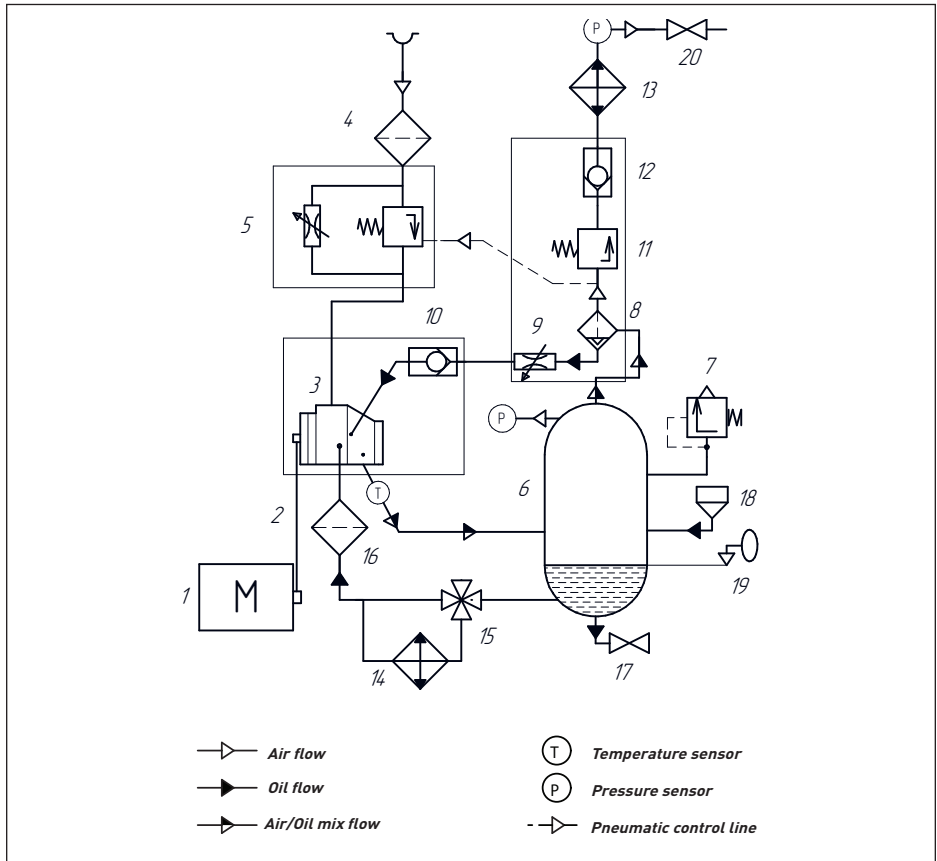

Fig. 2.3 Function diagram A75-90
2.4 Functional description (see Fig. 2.3)